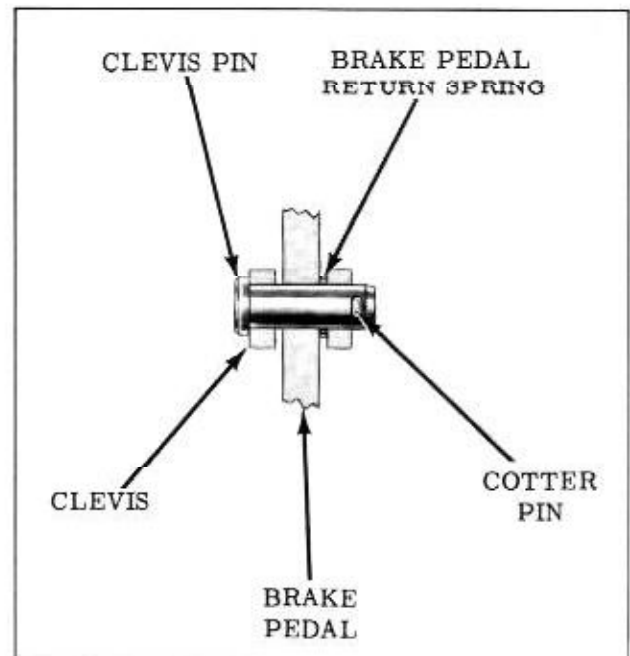

Figure 7-8 Brake Pedal Clevis Pin
3. Install clevis pin. (Fig. 7-8)